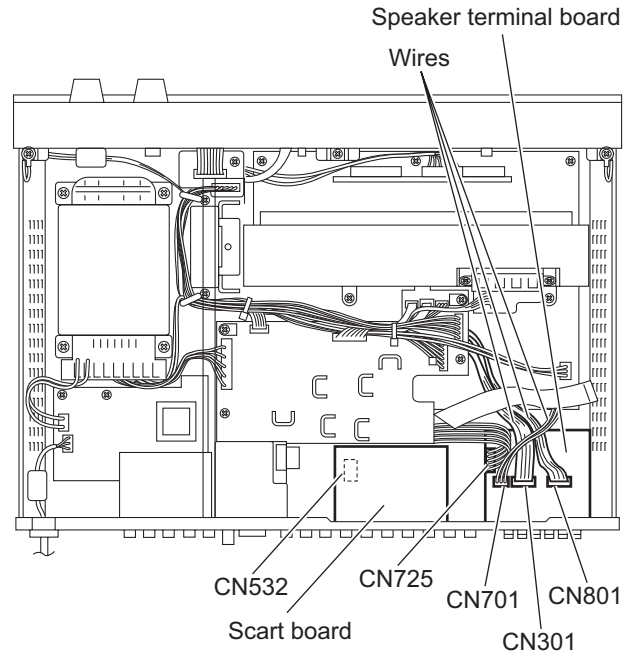

Fig.14
3.11 Removing the speaker terminal board (See Figs.14 and 15)
- From the top side of the main body, disconnect the wires from the connectors (CN301, CN701, CN725, CN801) on the speaker terminal board. (See Fig.14.)
3.12 Removing the scart board (See Figs.14 and 15)
- From the top side of the main body, disconnect the card wires from the connectors CN532 on the scart board. (See Fig.14.)